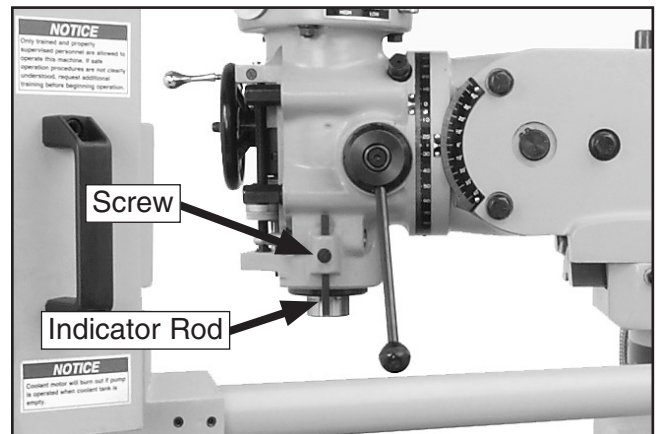

Figure 18. Indicator rod installed (right side of head shown).
- Loosen the screw on the right side of the head shown in **Figure 18**, then, aligning the flat of the indicator rod with that of the hole, slide the rod into the hole from the bottom and retighten the screw.